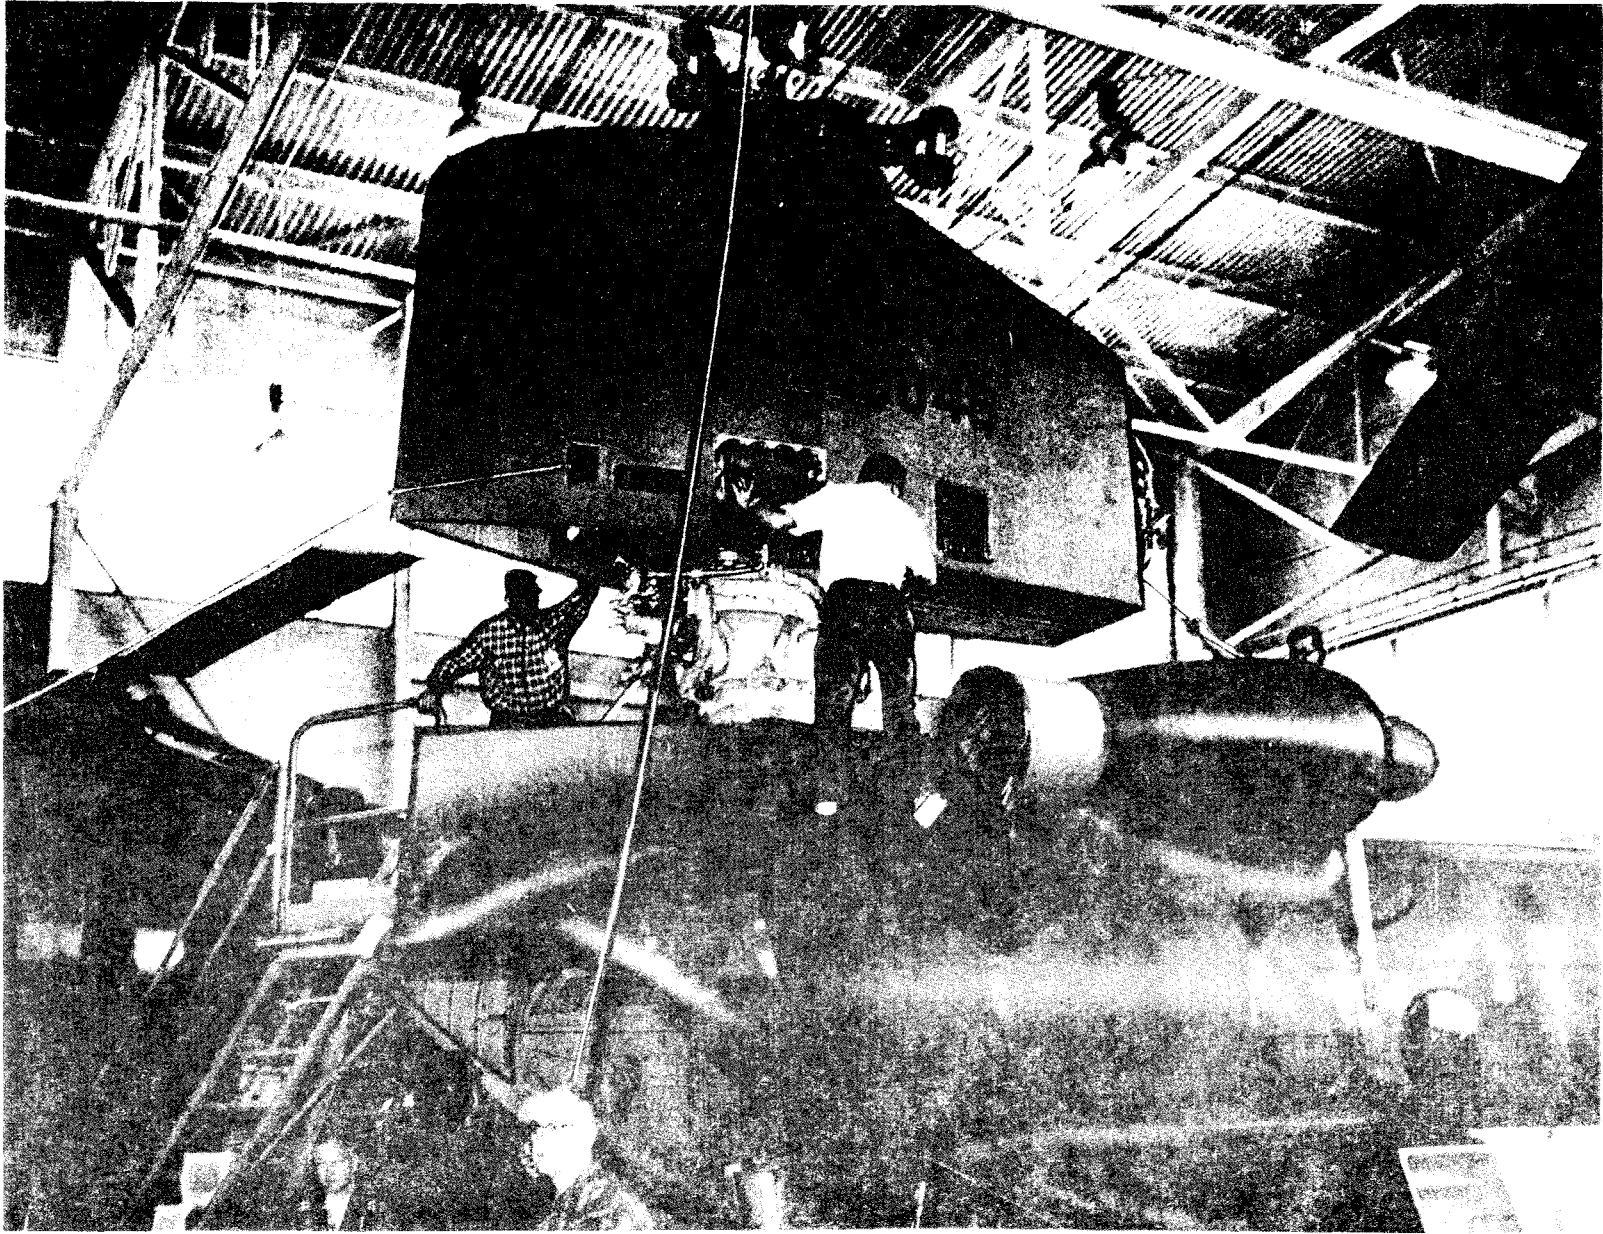
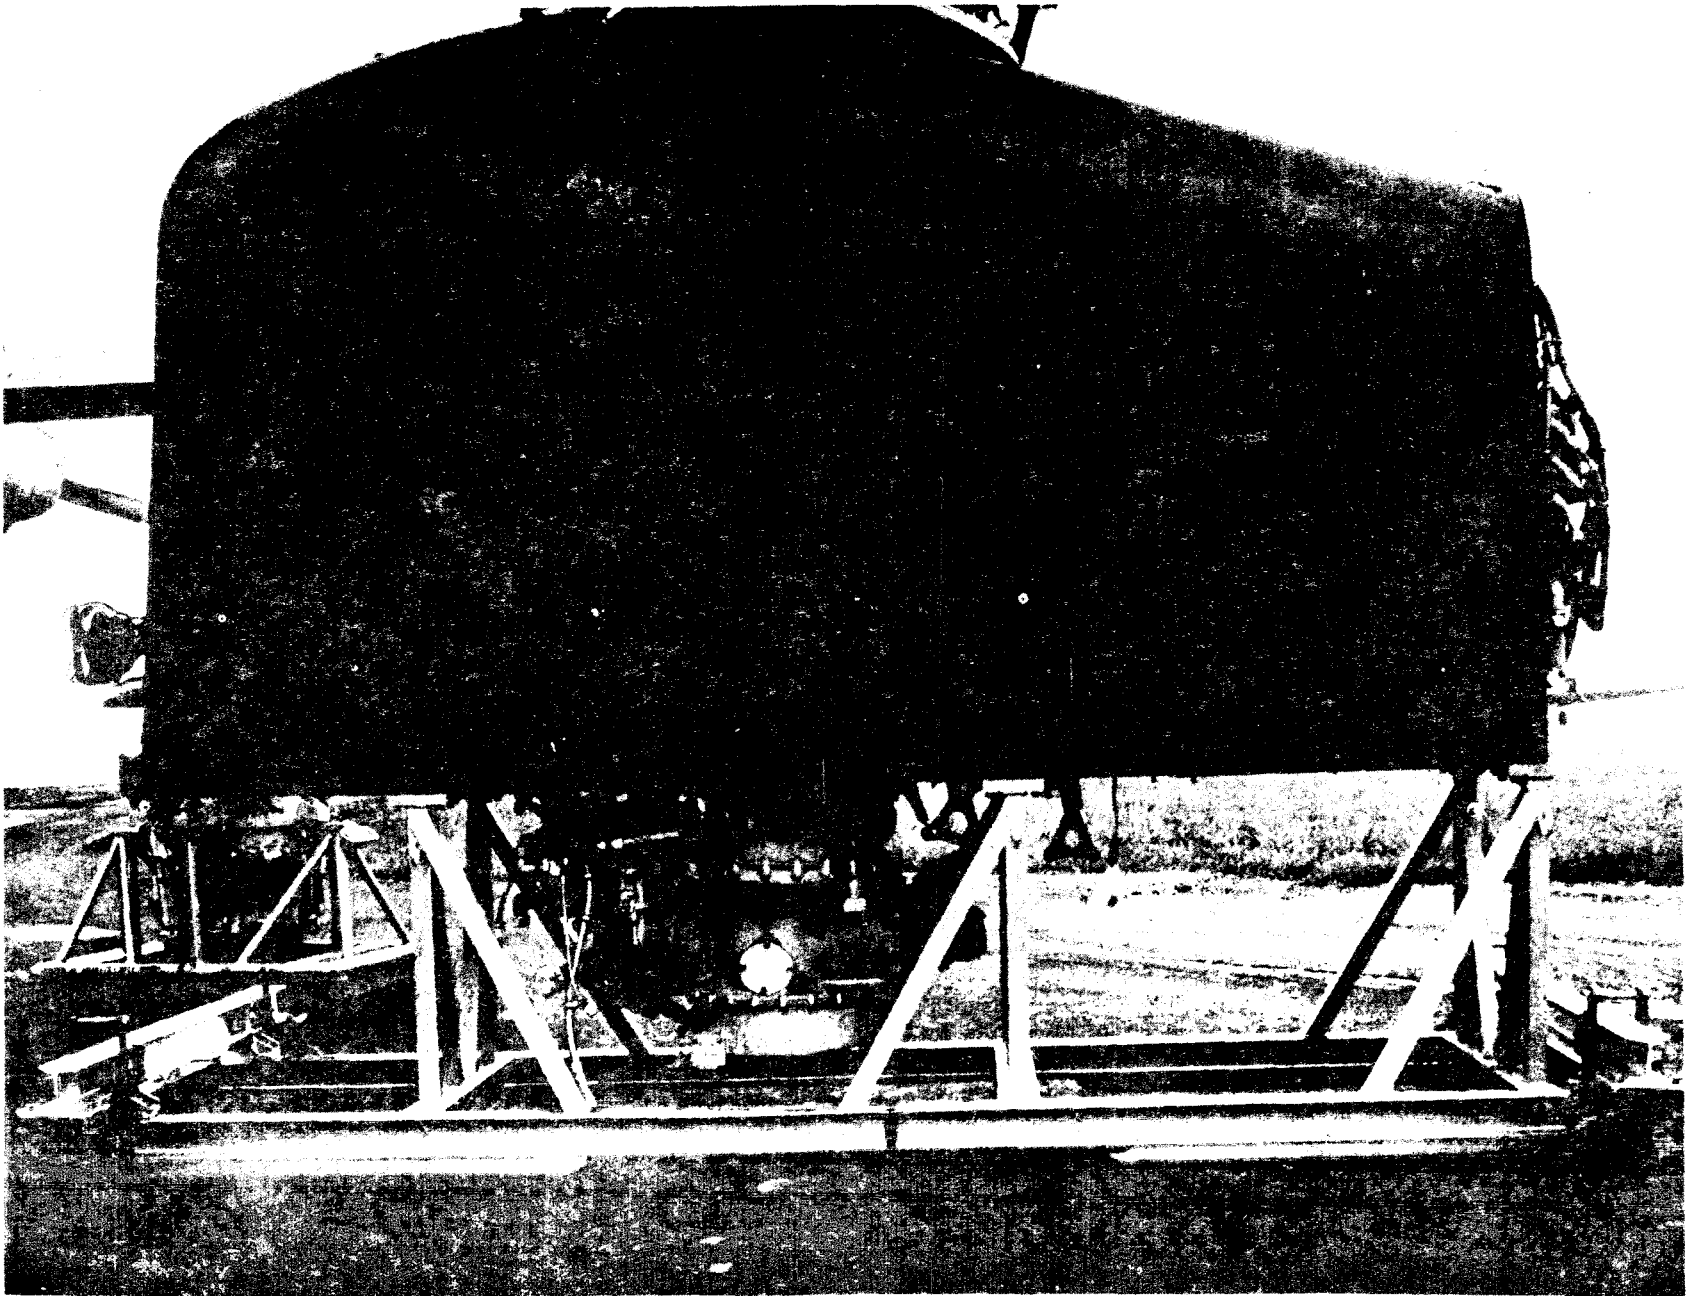
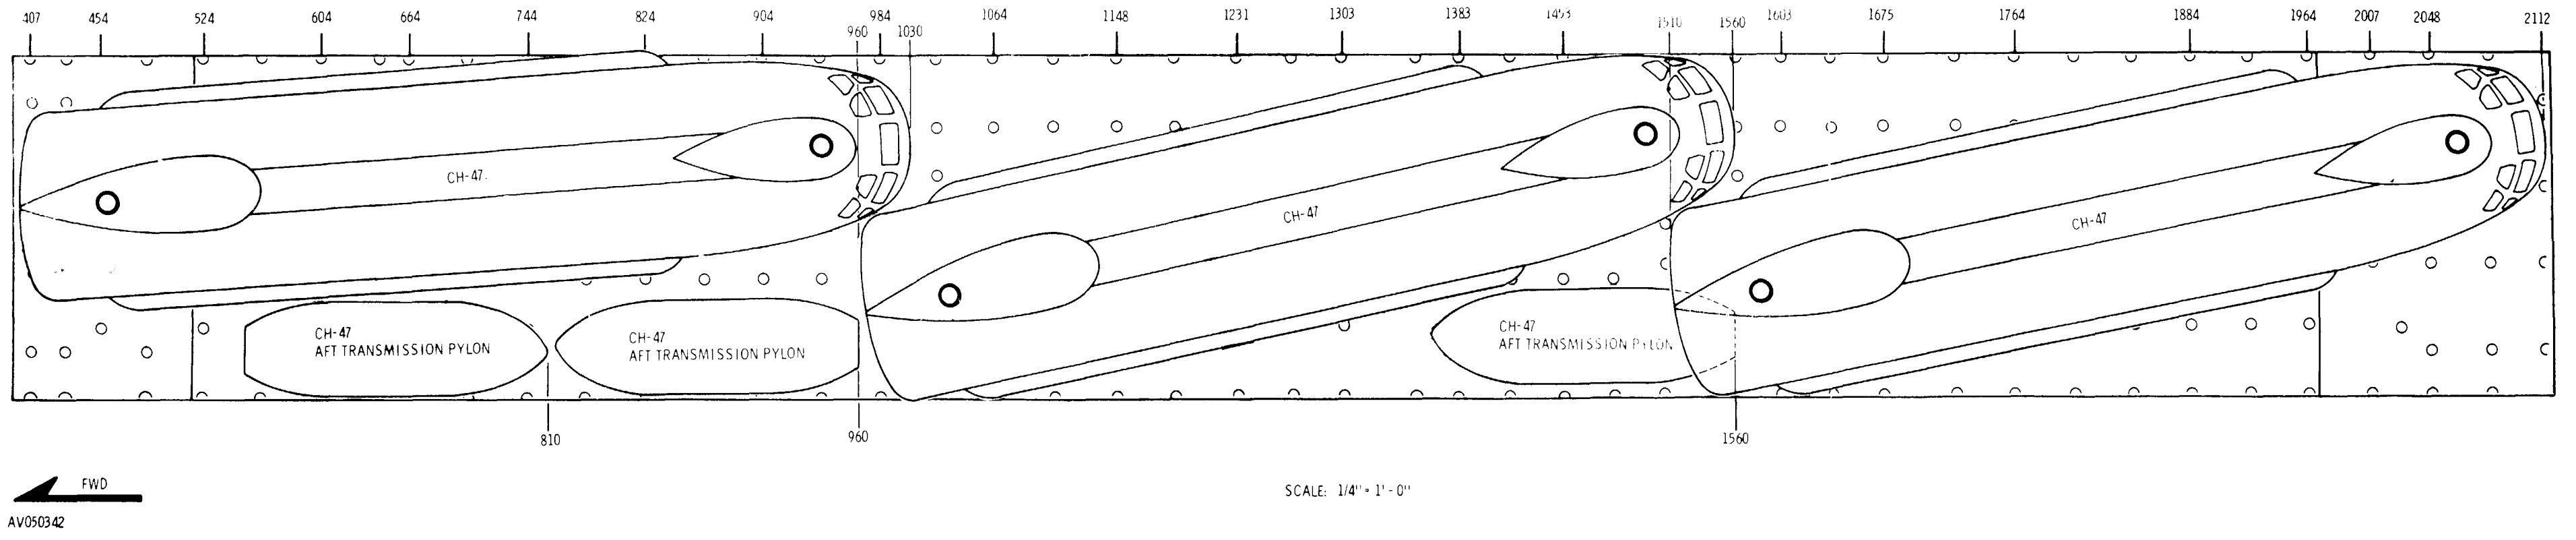

Figure 2-4. Removal of Aft Pylon Using Hoisting Adapter on Aft Drive Shaft
Figure 2-5. Aft Pylon Mounted on Vertical Pylon Handling Skid .
Figure 2-6. C-5 Loading Diagram
(8) Hoist pylon package (figure 2-4) and place it on vertical pylon handling skid (figure 2-5).
(9) Reinstall hub retaining nut cover.
(10) Position aft pylon package in cargo aircraft in accordance with figure 2-6, and secure in accordance with figure 2-8.
b. When helicopter is completely winched into cargo aircraft, steer it in a straight line to its prescribed tiedown position (Figure 2-6).